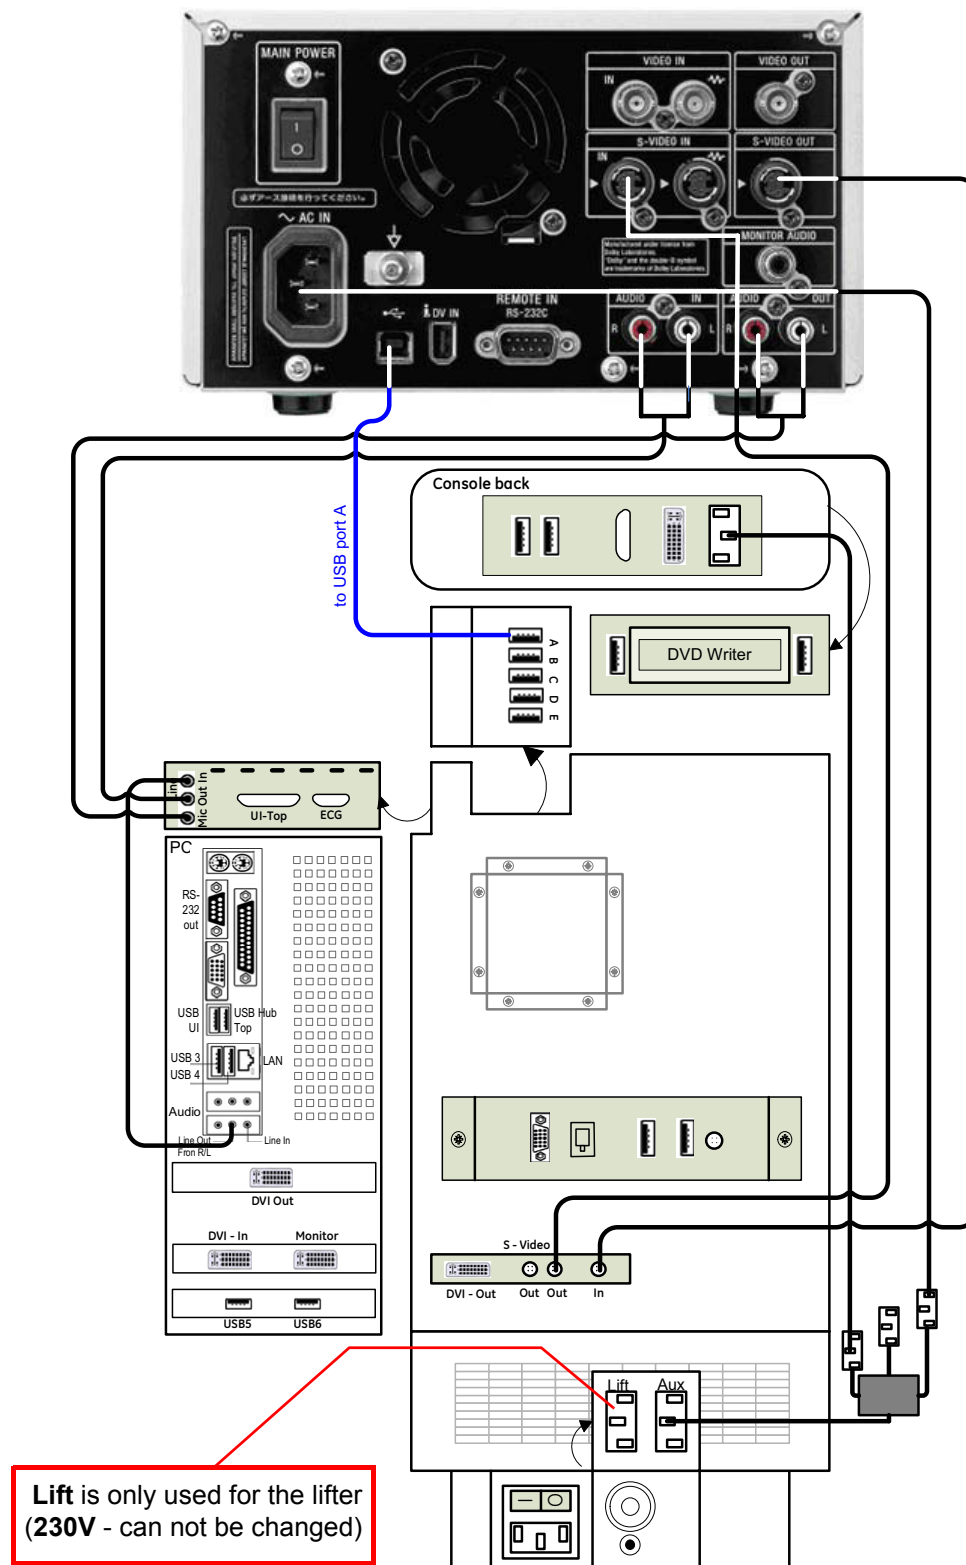

Figure 3-25 DVD Recorder connection (BT08: DFI Dual-core PC-Motherboard installed)
- if “**DFI Dual-core**” PC-Motherboard is installed, see: Figure 3-25 on page 3-33.